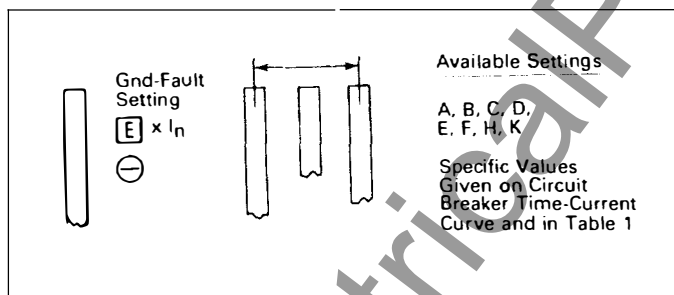

Fig. 4.6 Ground Fault Current Settings
The eight (8) Ground Fault Current Settings are labeled with the code letters "A" through "K" (except there are no "G" or "I" settings), as illustrated in Fig. 4.6. In general, the specific current settings range from 0.25 to 1.0 times ( $I_n$ ), the rating plug value, but cannot exceed 1200 A. The specific Ground Current Settings for each letter are listed in Table 1 and on the applicable Time-Current curve for the breaker.